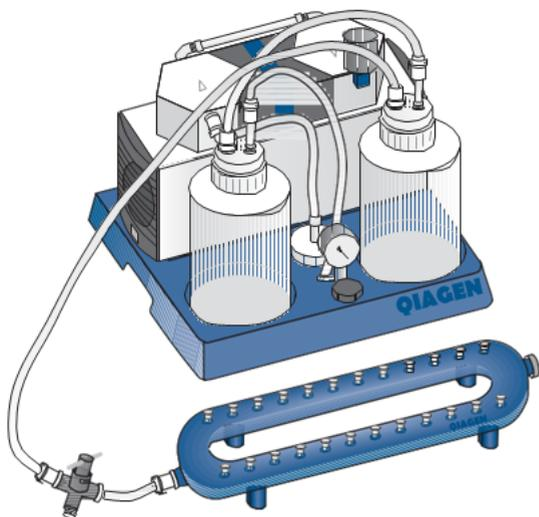

Figure 3. QIAvac 24 Plus, QIAvac Connecting System and Vacuum Pump.
QIAamp Mini columns are processed on the QIAvac 24 Plus using disposable VacConnectors and reusable VacValves. VacValves (optional) are inserted directly into the luer slots of the QIAvac 24 Plus manifold and ensure a steady flow rate, facilitating parallel processing of samples of different natures (e.g., blood and body fluids), volumes or viscosities. They should be used if sample flow rates differ significantly in order to ensure consistent vacuum. VacConnectors are disposable connectors that fit between QIAamp Mini columns and VacValves or between the QIAamp Mini columns and the luer slots of the QIAvac 24 Plus. They prevent direct contact between the spin column and VacValve during purification, thereby avoiding any cross-contamination between samples. VacConnectors are discarded after a single use. Due to the large solution volumes used, the QIAvac Connecting System (or similar setup with waste bottles) is required (see Figure 3).
4. Insert a VacConnector into each VacValve (see Figure 3).